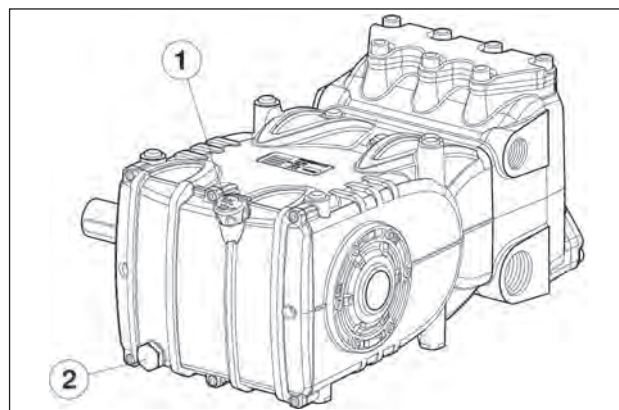

Fig. 3
Check the oil level, refill if necessary From the oil dipstick pos. ①, Fig. 3.
The correct checking of the oil level is made with the pump not running, at room temperature. The oil change must be made with the pump at working temperature, removing: the oil dipstick, pos. ①, and then the plug pos. ②, Fig. 3.
Use a temperature probe to be inserted into the oil drain plug pos.(2) fig.3. See "ATEX EXPLOSION PROTECTION" manual.